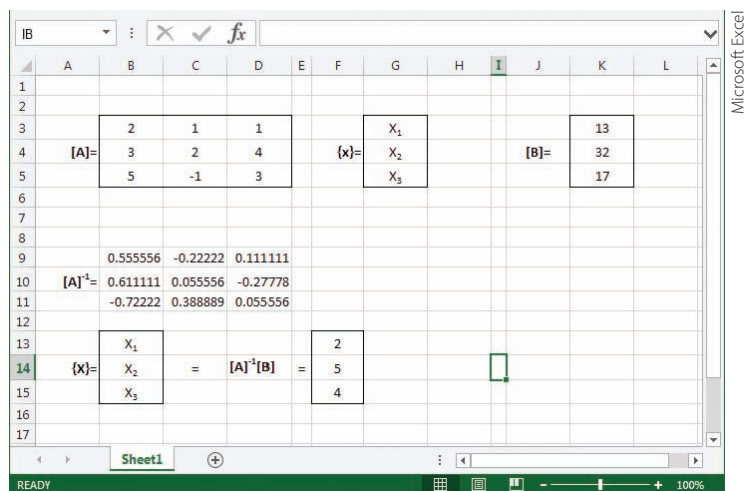

FIGURE 14.45
5. Then, pick cells F13 through F15; in the formula bar, type **=MMULT (B9:D11, K3:K5)**; and, while holding down the **Ctrl** and the **Shift** keys, press the **Enter** key. This sequence of operations will create the result shown in Figure 14.45. The values of x_1 , x_2 , and x_3 are now calculated.